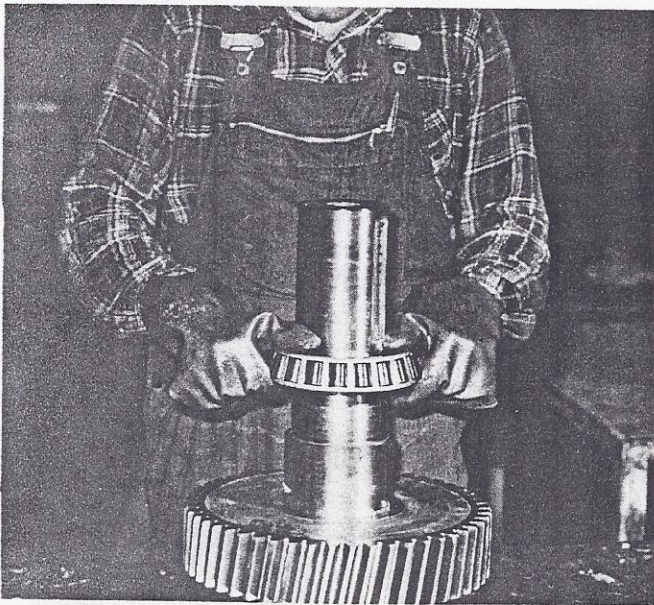

Fig. 14
5. Turn output shaft over and install lower bearing firmly against shaft shoulder, fig. 14. Proceed with pinion stage in the same way.